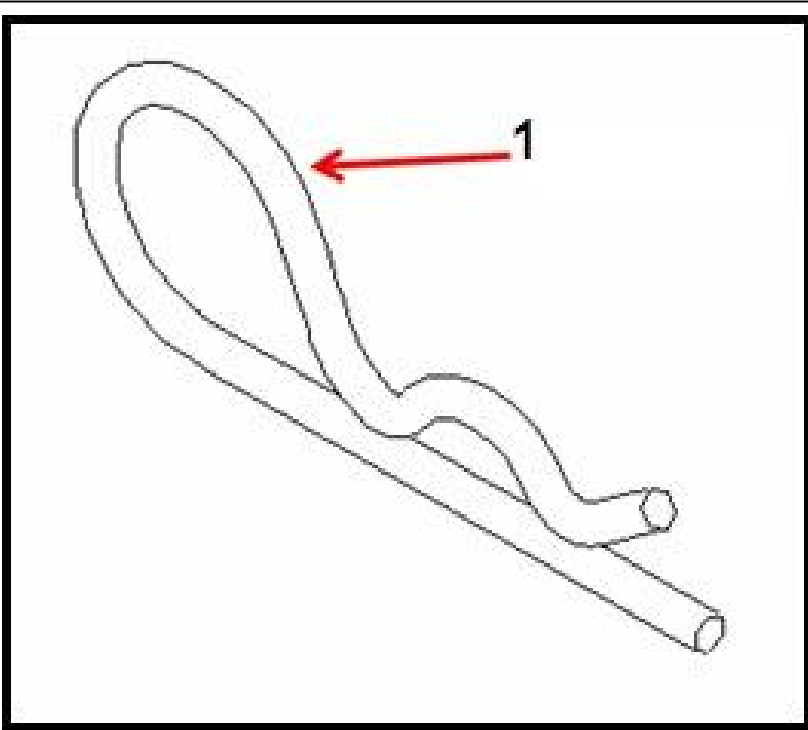

Figure 5
5. Differences between old and new cotter pin (*Figure 5*).